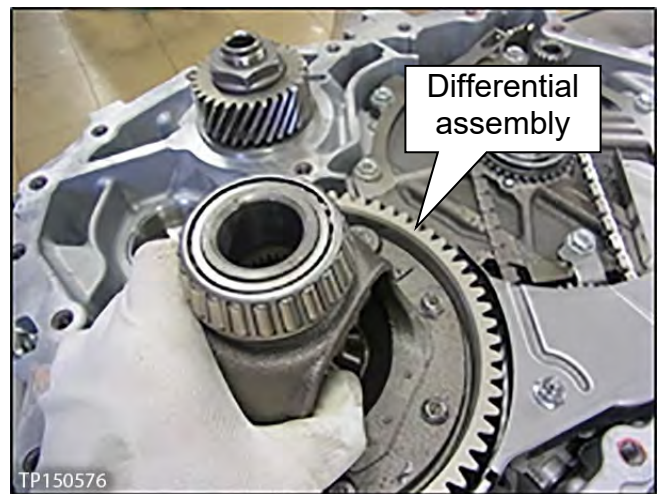

Figure 82
18. Install the differential assembly into the CVT case (see Figure 82).